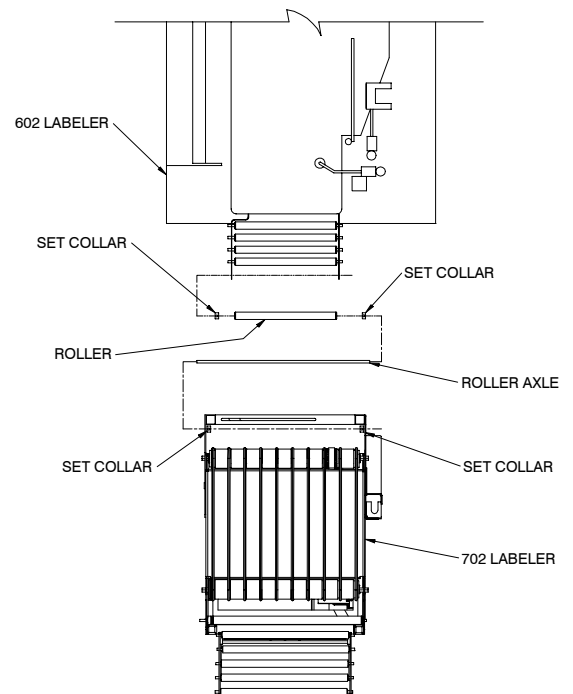

Figure 3-1: Mounting the Model 702 to Model 602
3. Attach the Model 702 to the Model 602 using the new roller and shaft that are shipped with the Model 702 Standalone. Refer to Figure 3-1.